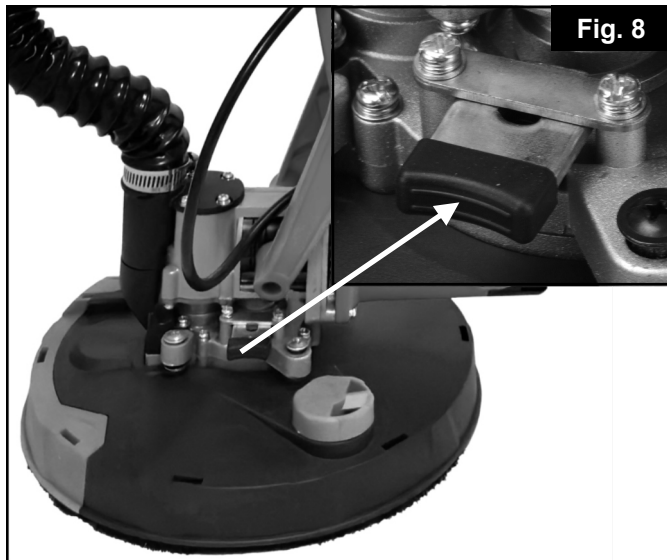

Fig. 8
- ✓ Locate the locking mechanism on the head as shown in Figure 8.